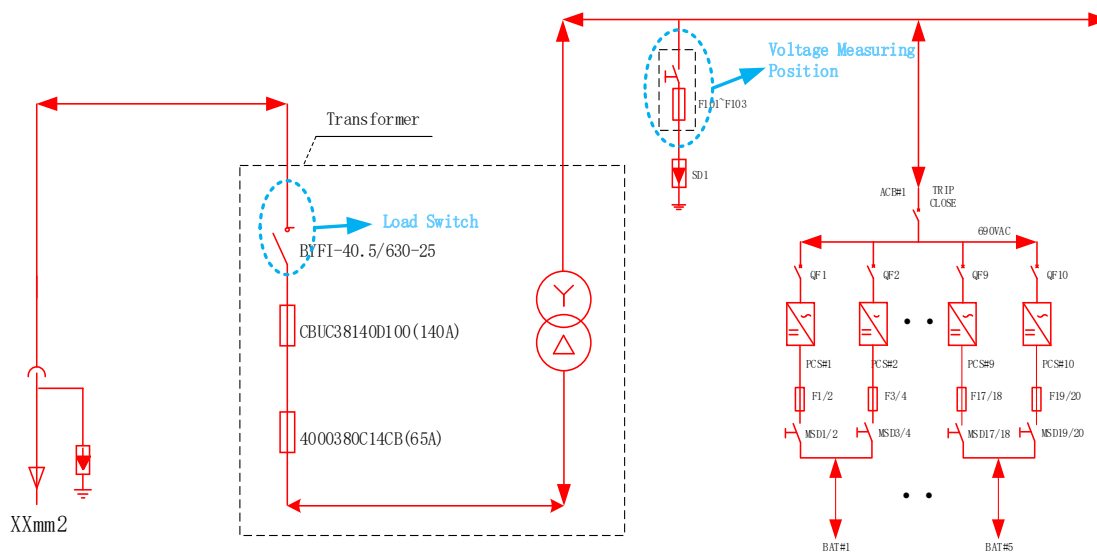

Figure 3-21 Schematic diagram of medium voltage load switch and low voltage fuse
6. Close the oil immersed load switch of the American style box transformer to supply medium voltage power to the transformer, and test whether the AC low-voltage side voltage is normal (690VAC) with a multimeter after the load switch is closed, and the measurement position is F101~F103, as shown in the figure 3-21 below.
2. Close the oil immersed load switch of the American style box transformer to apply medium voltage to the transformer. After the load switch is closed, close the F101~F103 fuses and use a multimeter to test whether the AC low-voltage side voltage is normal (690VAC). The measurement positions are F101~F103, as shown in Figure 3-21;